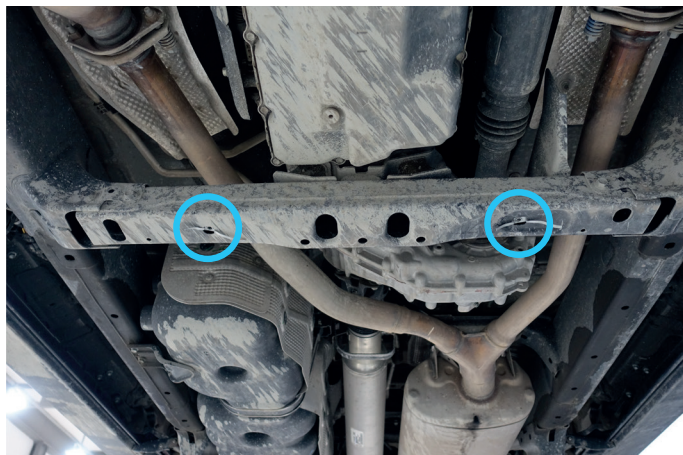

Fig. 5
5. Instal insert nut M8x60 (item A), in frame rail as shown in fig.5.